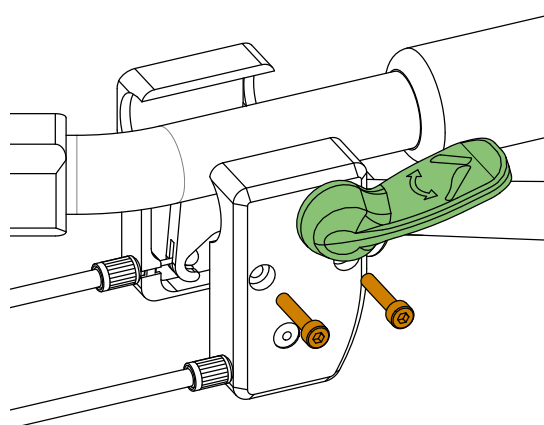

Figure 20. Screws for controls
1. Remove the screws (Figure 20) to release the cable control from the push bar.
1. Remove the screws (Figure 20) to release the cable controls on both sides of the push bar.